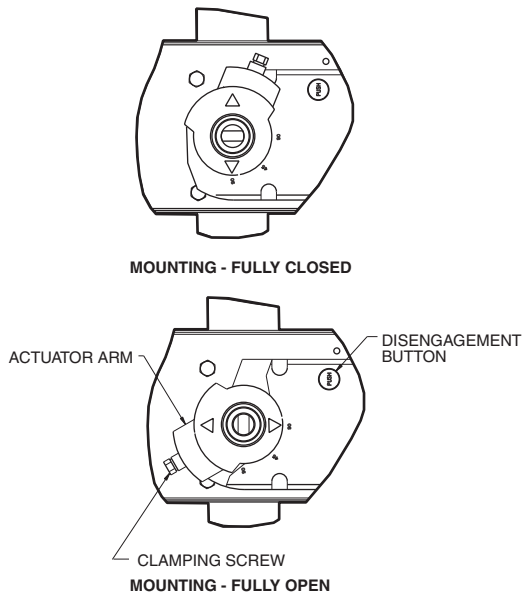

Fig. 43 — Ball Valve Motor
See Fig. 43 for a view of the ball valve motor mounting with a fully open valve. The motor actuator arm should be at a counterclockwise position, with the valve shaft in a parallel position. If not in a parallel position, loosen the clamping screw and push the disengagement button to rotate the actuator arm until it stops. Retighten the clamping screw.
2. With the compressor off hold down the Disengagement (Push) button. See Fig. 43.